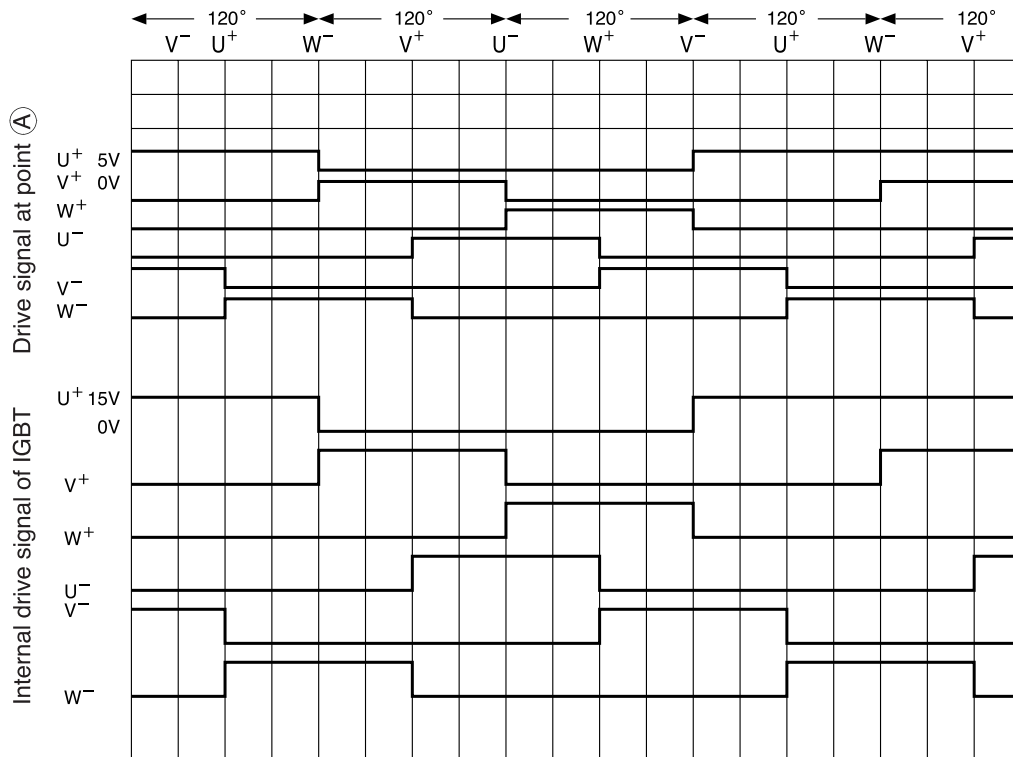

Fig. 4-3
- When the unit operates at high speed, drive signal is output from the microcomputer as shown in Fig. 4-3.